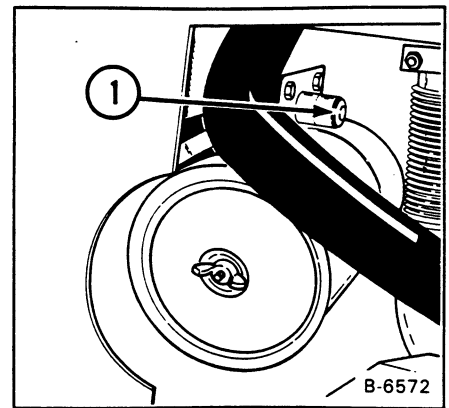

Fig. 1-7 Condition Indicator
(3) Replace the large (outer) filter element only when the red ring shows in the window of the condition indicator (Fig. 1-7).
(4) Replace the inner filter element every third time the outer filter is replaced or when the red ring still shows in the indicator window after the outer filter is replaced.
NOTE: Before replacing the filter element, push the button on the condition indicator (Fig. 1-7, Item 1) and start the engine. If the red ring does not show, do not replace the filter element.
(6) Install the dust cup and tighten the clamp. All hoses and clamps must be tight.
(7) Push the button at the indicator (Fig. 1-7, Item 1) to remove the red ring.